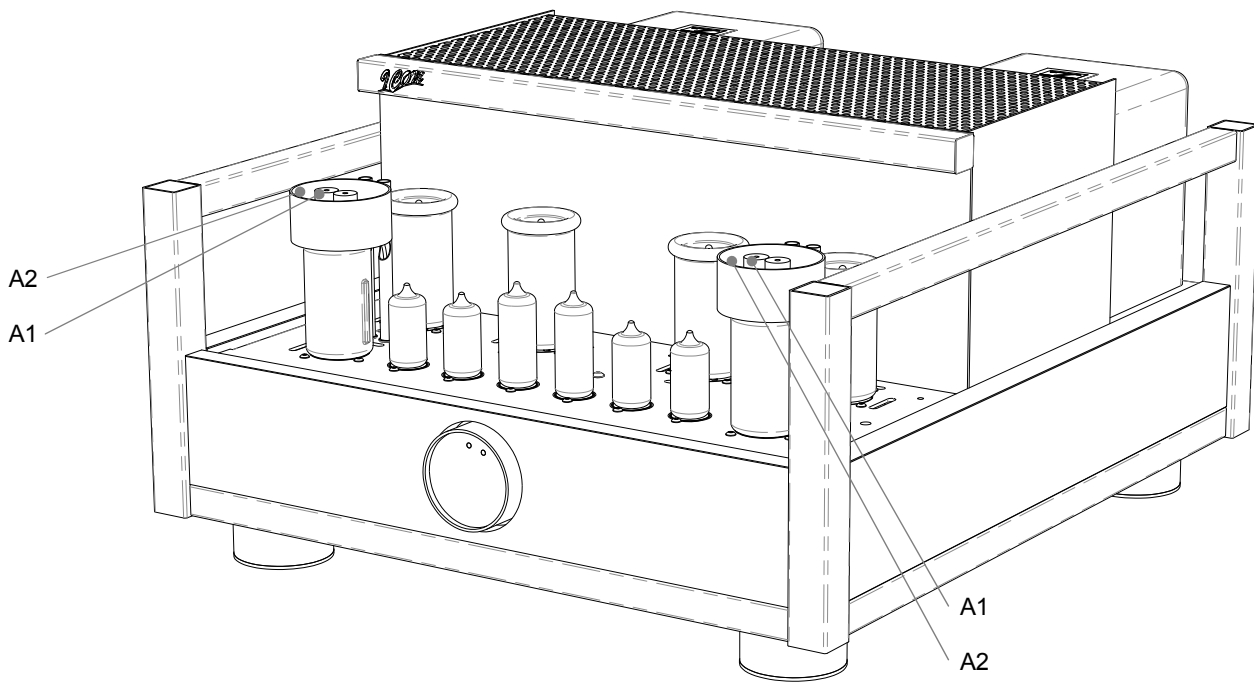

Figure 7
5. Slip on two cylindrical terminals to the A1 – top lead and A2 – top lead of the tube. Refer to figure 7